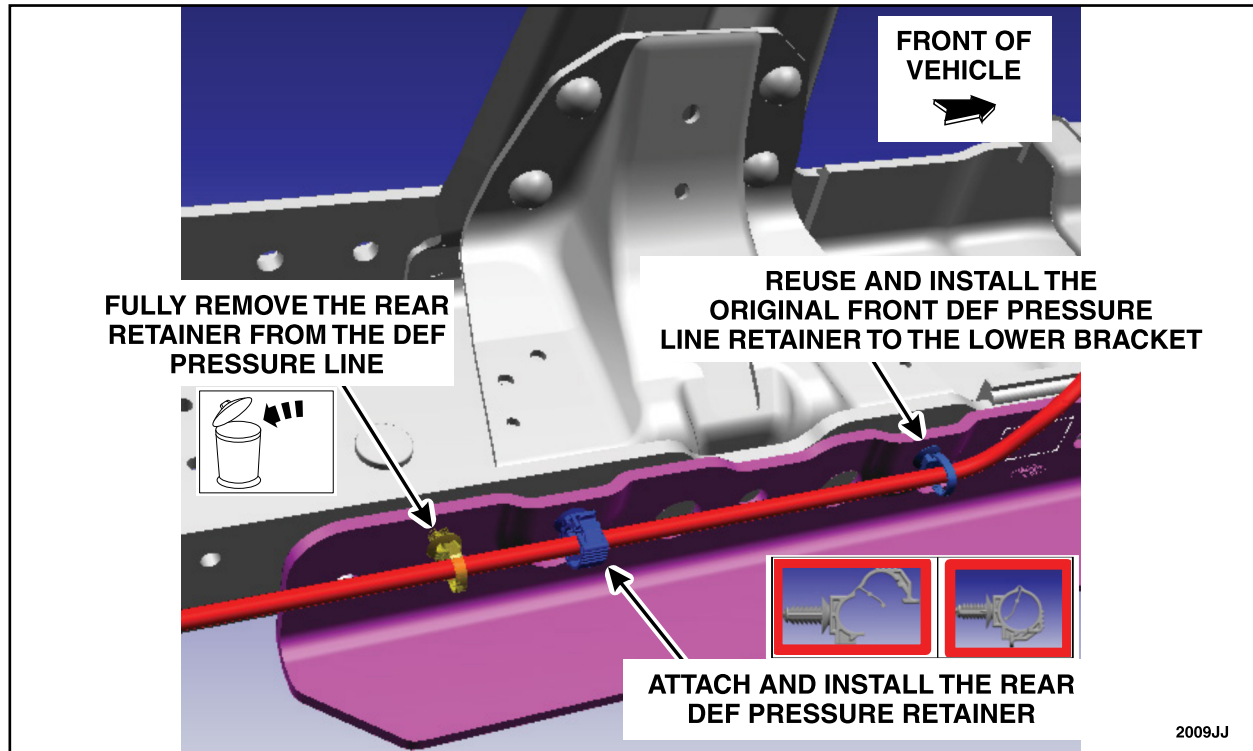

FIGURE 30
2. Once the LH side lower bracket has been installed, position back the DEF pressure line and attach the existing front line to frame retainer to the lower bracket as shown in Figure 30. Then, remove and discard the original rear line to frame retainer from the DEF pressure line. Then, attach the supplied clasp retainer to the DEF pressure line and install into the rear lower bracket retainer hole as shown in Figure 30.